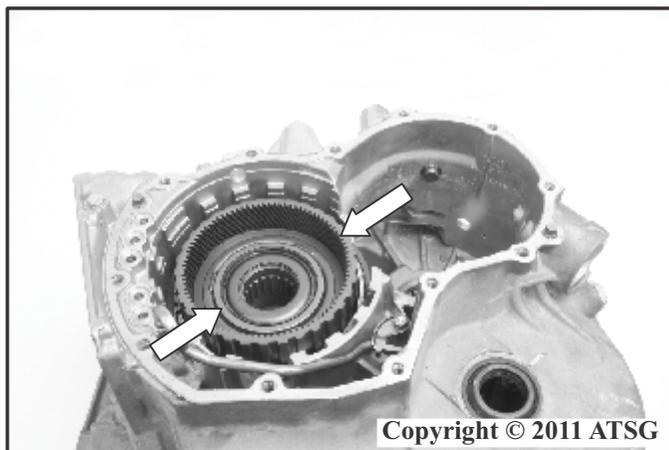

Figure 212
10. Install the front internal gear assembly onto the splines of the output gear assembly as shown in Figure 212.
11. Install the front internal gear thrust bearing assembly onto the front internal gear and hold the bearing in place with a small amount of Trans-Jel® as shown in Figure 212.